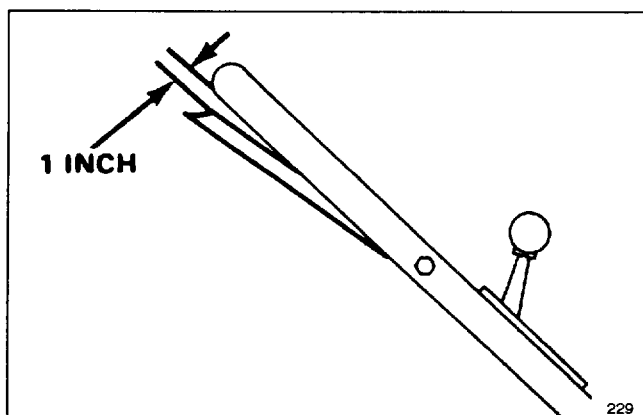

Figure 24
3. CHECK ADJUSTMENT—Slowly pull mower backward while control bar is gradually moved toward handle. Adjustment is correct when rear wheels stop turning and control bar is about 1-inch from handle (Fig. 24).